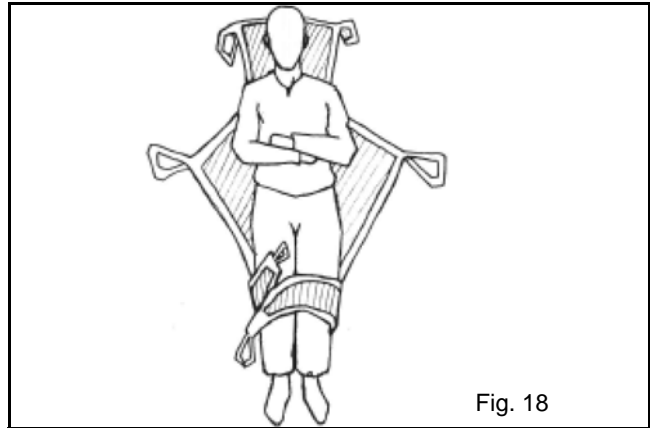

Fig. 18
- 2) Pull right leg strap under both legs, and lay it as resident/patient's left side. Repeat with left leg strap, laying it at resident/patient's right side. The sling is then crossed under resident/patient's back. (see Fig. 18). Smooth out any "bunching" under the legs.